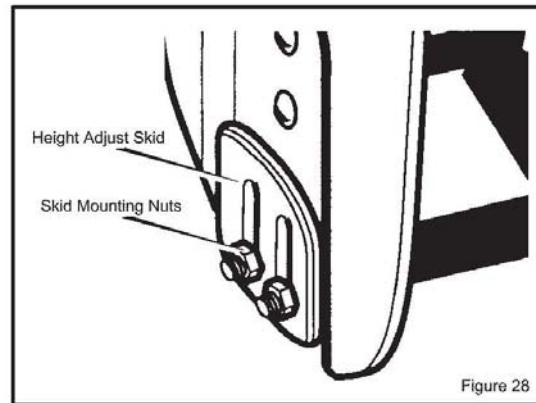

Figure 28
2. Loosen skid mounting nuts (Figure 28) and push the skid down until it touches the ground. Retighten mounting nuts.